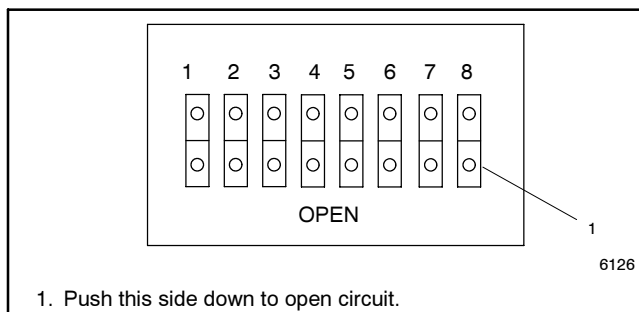

Figure 35 16-Light Controller DIP Switches
- 6.1 Set the controller MODBUS® address to #1 by placing DIP switches 6, 7, and 8 to the open position. See Figure 35.